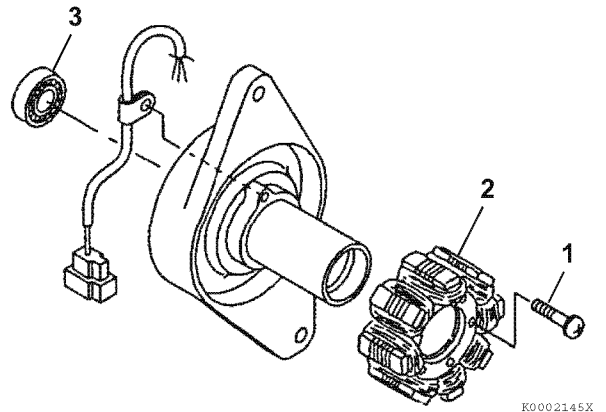

Figure 11-26
4. Remove the screws (Figure 11-26, (1)) and the stator assembly (Figure 11-26, (2)).
5. Remove the rear bearing (Figure 11-26, (3)).